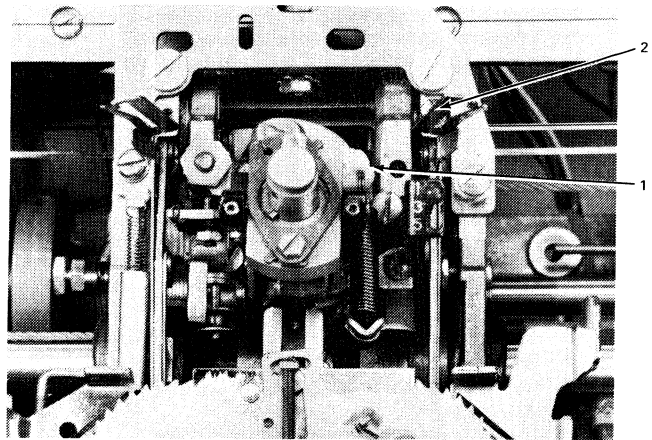

Figure 4-38. Tilt Tape Replacement
5. Place the eyelet on the tilt pulley bellcrank (No. 1, Figure 4-38).
8. Remove the tape retaining pin (No. 2, Figure 4-38) from the carrier and insert the tilt tape, keeping it on top of the rotate tape.